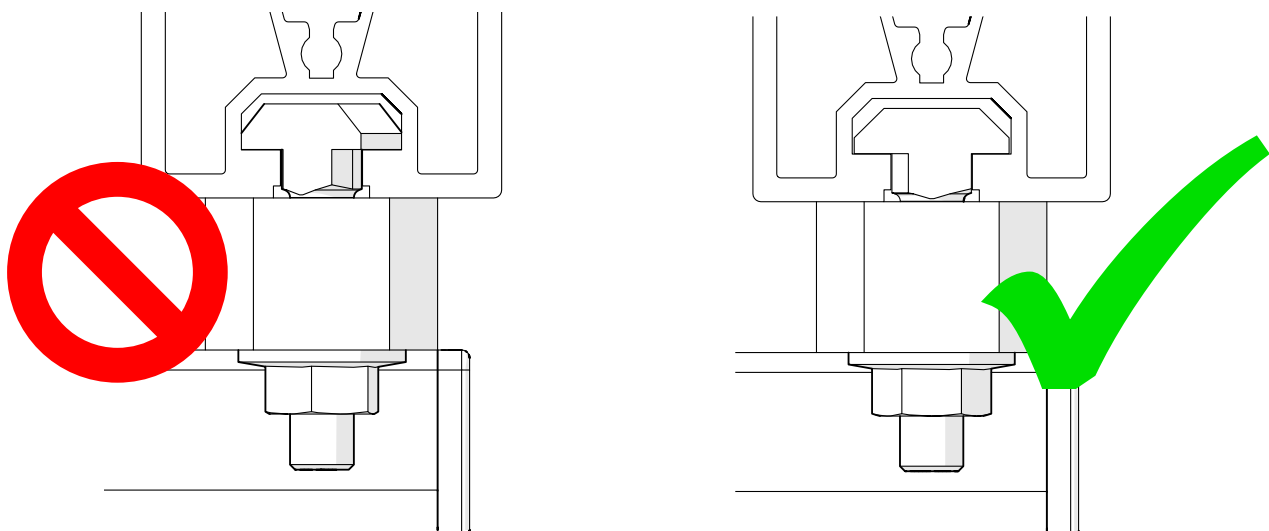

Figure 5: Tightening T-Bolts
Step 2: Once all of the T-Bolts are secured, the SLLU has been mounted. The next step is to install the guarding as shown in Figure 5.